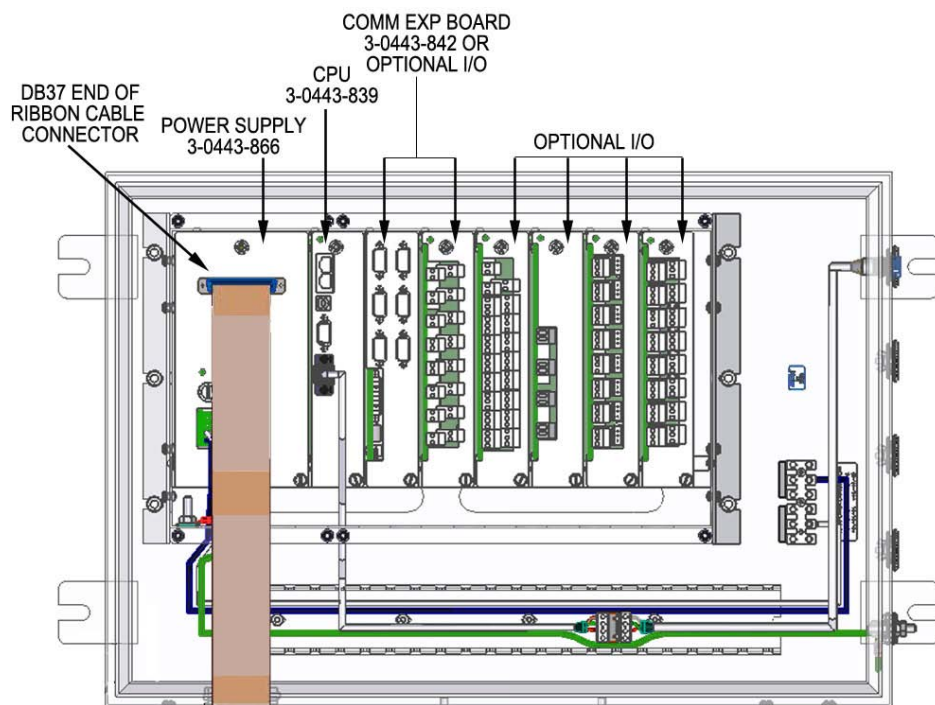
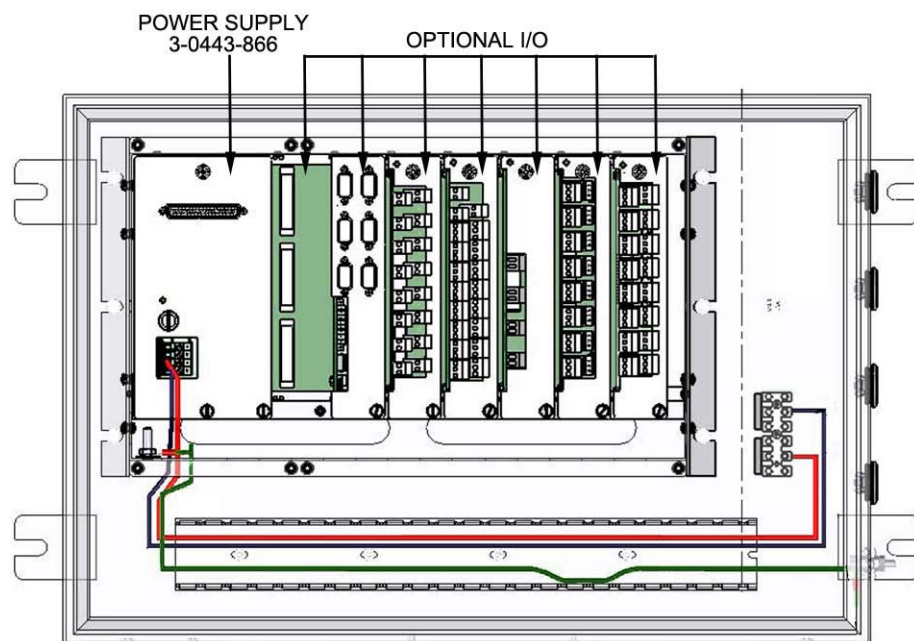

Figure 7-3. PCA locations in Type 4X basic enclosure
Figure 7-4. PCA locations in Type 4X expansion enclosure
2. Refer to Figure 7-3 for a Type 4X basic enclosure or Figure 7-4 for a Type 4X expansion enclosure.